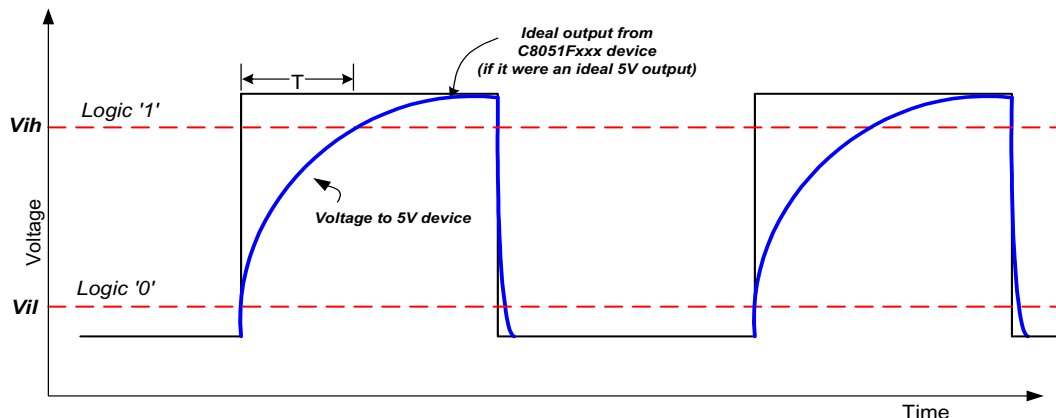

Figure 3. Square Wave With Charge Time Due To Stray Capacitance
logic '1'. See Figure 3 below, where T is the time it takes to charge above the voltage required for the 5 volt device to realize a logic '1' (commonly referred to as V_{ih}). This voltage will depend on the application, as will the value of the stray capacitance. If the time constant is too large, the 5 volt device may never receive a high enough voltage to realize a logic '1' at a given square wave frequency. For this reason, the chosen pull-up resistance (R) must be low enough for proper input, but the R must not be so low that excessive power is dissipated in the pull-up resistor during logic low state.
'0'), this time is insignificant when compared to the rise-time. This is illustrated (although exaggerated) in Figure 3 to show the small decay time. The charge in the stray capacitance discharges through the C8051Fxxx port driver with a small voltage drop to ground.